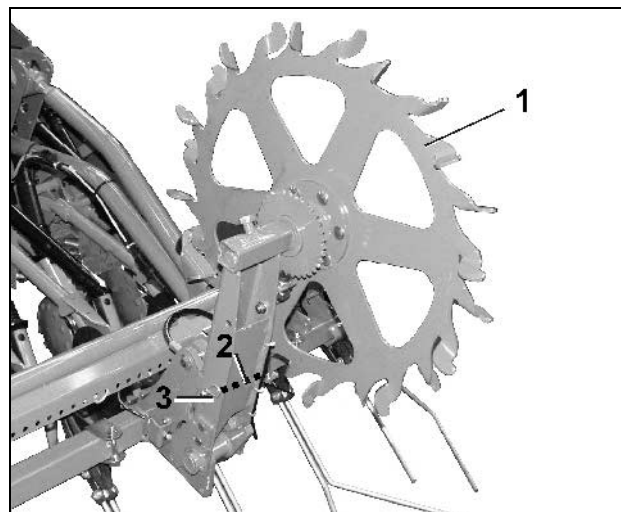

Fig. 100
- Briefly lift the star wheel by hand (Fig. 100/1), slacken the lynch pin (Fig. 100/3) pull out the pin (Fig. 100/2) and lower the star wheel.